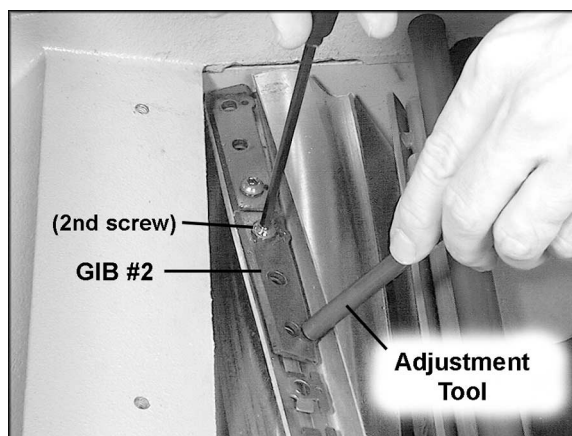

Figure 19 – Model 15S only
8. Put the first gib in place at the end of the cutterhead. Use the knife adjustment pins shown in Figure 19. The adjustment pins fit down through the smaller holes in the gib, knife, and cutterhead, helping to align them.
10. Put the next gib in place, and repeat the process. See Figure 19. Use the adjustment pins and make sure the wings of the knife are completely in the cutterhead groove. Continue sequentially from one end of the cutterhead to the other end. Again, only make the screws snug enough to hold the knife in the groove.